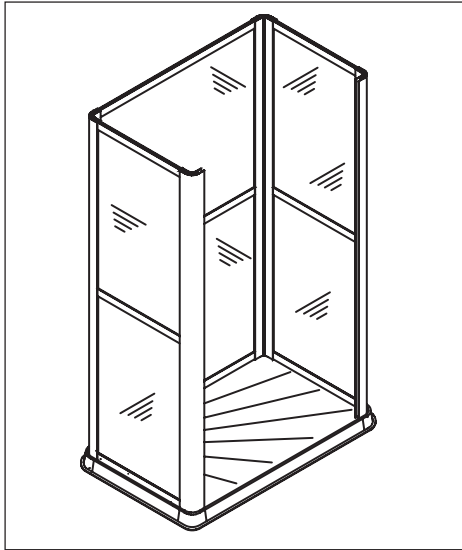

Fig 4.6
7. Fig 4.6 Locate the side panel (with the shower unit on it) (8) into the corner post channel (1) and locate corner post (7). Fix as previous.